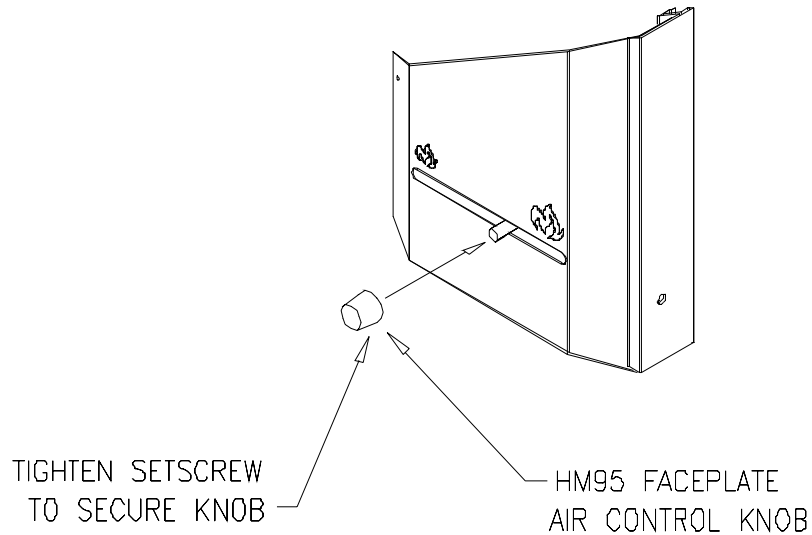

Figure 2.10
11. Add the HM95 air control knob (Figure 2.10).